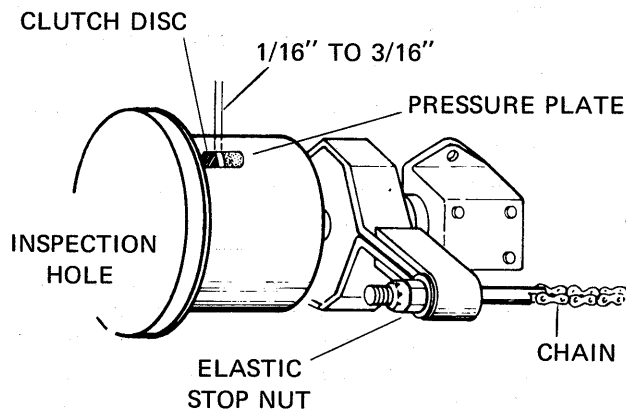

FIG. 12
5. If the distance is not between  $1/16$  and  $3/16$  of an inch, tighten the nut on the brake band through the hole in the upper left side of the rear frame until the proper clearance is obtained. (see Figs. 12 and 13)